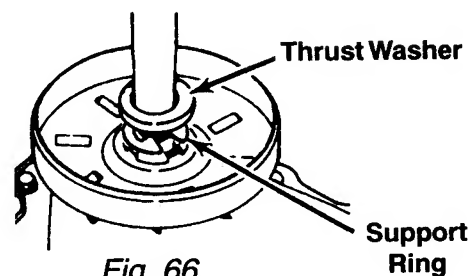

Fig. 66
3. To remove the entire clutch assembly, begin by removing the spin tube thrust washer up and off the agitator shaft and then remove the tube support ring. (Fig. 66)